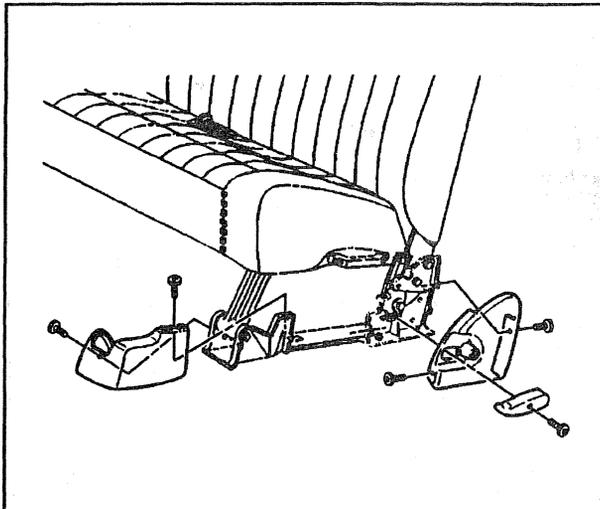

Figure 10—Folding Intermediate Seat Trim Covers
1. Front and rear leg trim covers and (figure 10).